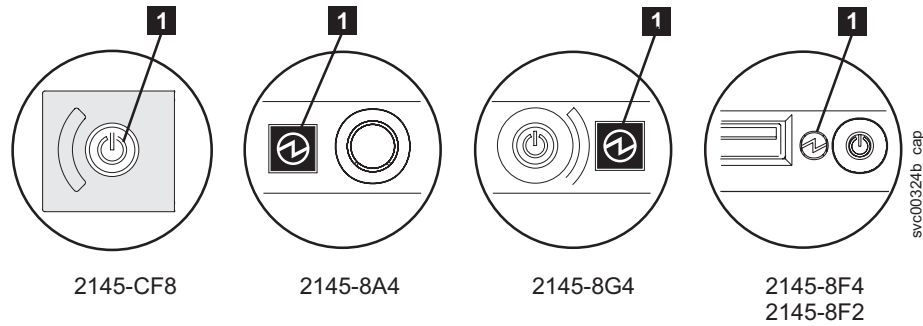

Figure 93. Power LED on the SAN Volume Controller models 2145-CF8, 2145-8A4, 2145-8G4, and 2145-8F4 or 2145-8F2 operator-information panel
1. Check the SAN Volume Controller models 2145-CF8, 2145-8A4, 2145-8G4, 2145-8F4, and 2145-8F2 power LED (**1** in Figure 93 on page 111).